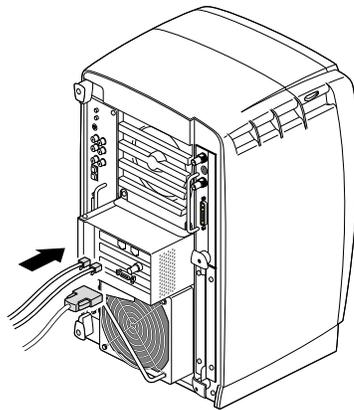

Figure 4-52 Installing the PCI Cables
8. Connect any PCI cables to the PCI connectors, as shown in Figure 4-52.